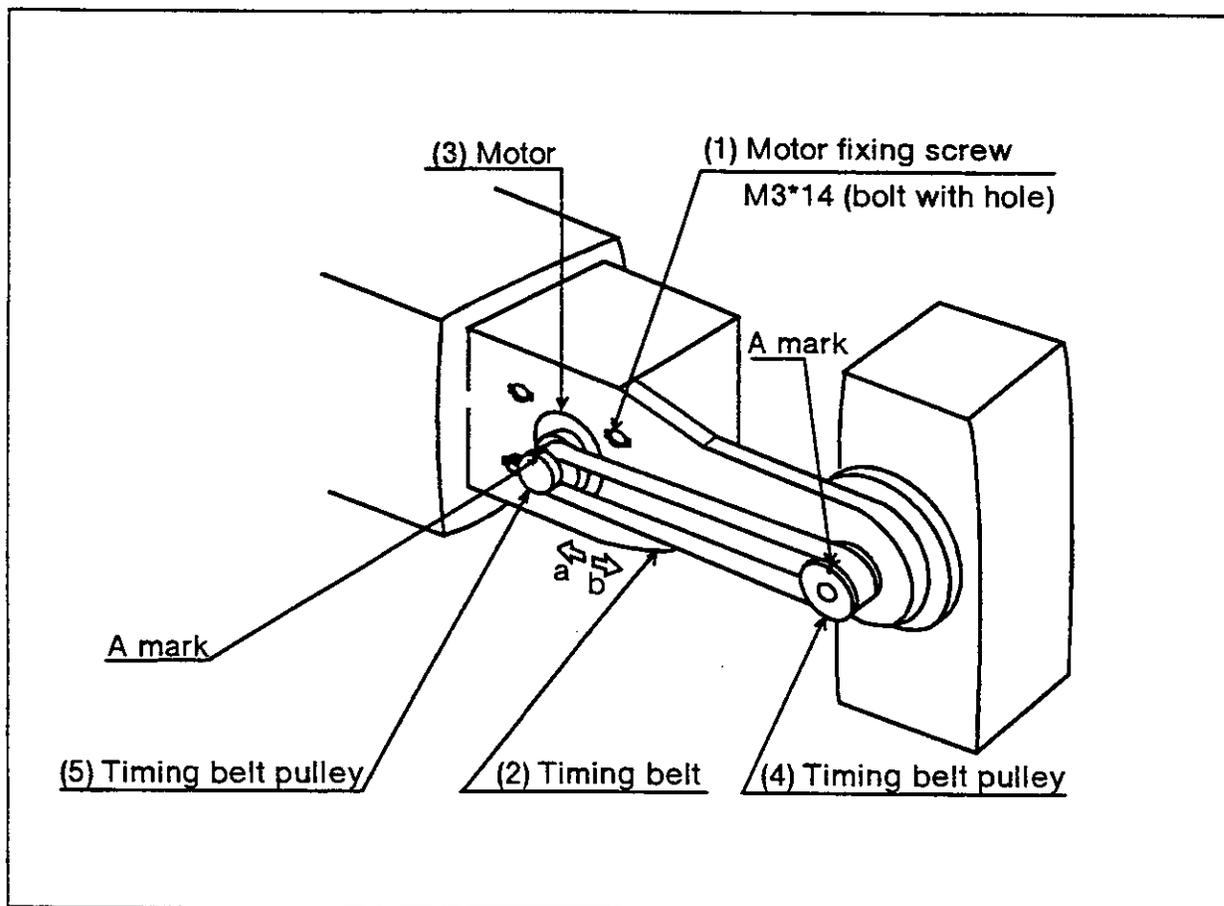

Fig. 5.4 Inspecting, adjusting, and replacing the timing belt for the wrist pitch joint drive.
1. Figure 5.4 shows how to inspect and adjust a timing belt for wrist pitch joint drive.
1. Fig. 5.4 shows how to inspect and adjust a timing belt for wrist pitch joint drive.
3. Move the motor to the direction of the arrow in Fig. 5.4 to adjust the tension by confirming the belt. The motor casing has long hole to adjust it.
1. Fig. 5.4 shows how to replace a timing belt.